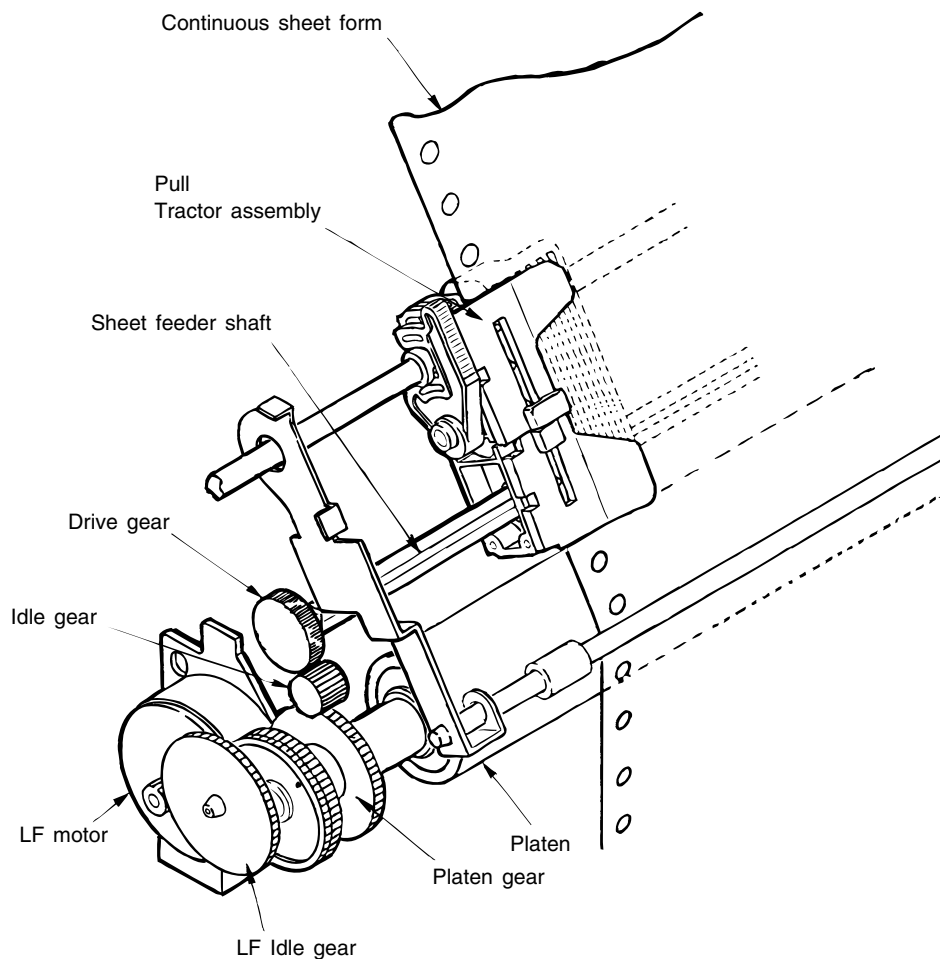

Figure 2-12
(5) Pull tractor mechanism (option) (See Figure 2-12.)